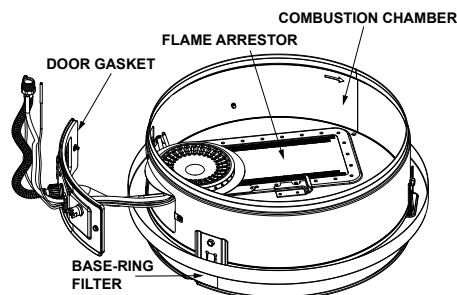

**FIGURE 37.**
7. Route the new pilot tube, new igniter wire and new thermopile wire through the opening in the manifold door (Figure 37).
7. Connect the white (-) thermopile wire to the gas control valve/thermostat. Then connect the red thermal switch wires to the thermal switch on the on the manifold door. (Figure 37).